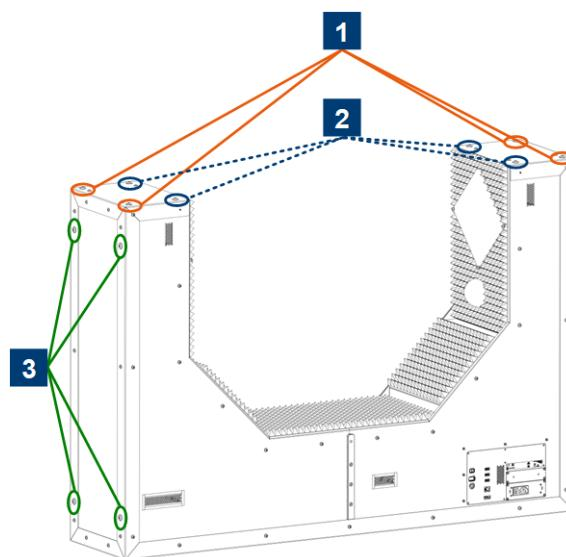

Figure 4-11: Attachment points for lifting equipment
Depending on the setup (lying or upright position), use the mounting holes indicated in Figure 4-11 to lift the R&S QAR50. Do not use different mounting holes and always use four mounting holes to distribute the weight equally.
- For the lying position: Use the mounting holes on top of the R&S QAR50. Use either the four outer mounting holes (variant 1 in Figure 4-11) or the inner mounting holes (variant 2 in Figure 4-11).